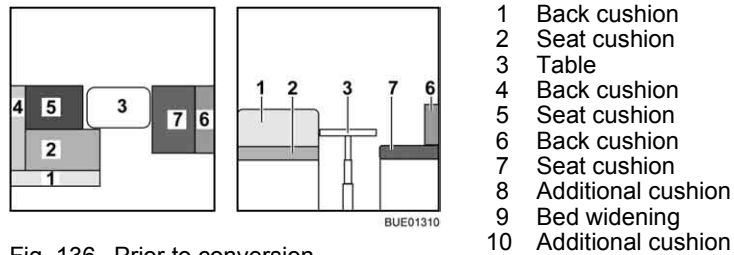

Fig. 136 Prior to conversion
- Convert the table (Fig. 136,3) to a bed foundation (see section 6.10).
- Remove the back cushions (Fig. 136,1 and 4) and lay them aside.